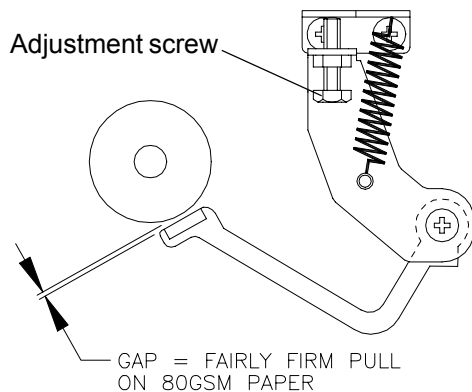

Fig. 1
The separator is located under the centre of the 3 feed rollers located at the bottom of the hoppers, visible after removing the hopper. To set or check the gap, wind in by hand a piece of 80gsm (20 lbs bond) paper - a fairly firm pull should then be felt when withdrawing the paper, though not too firm or sheets may not feed properly. If adjustment is required, turn the adjustment screw (see Fig. 1 below) until the correct setting is achieved. After adjustment is complete, check the setting again to ensure it has not moved. Note that the adjustment screws are self-locking 'Tufloc' screws, and if they are at all loose, they must be replaced.
1. Remove the adjustment bracket (shown in Fig. 1) from the end of the separator pivot shaft after unhooking the spring.